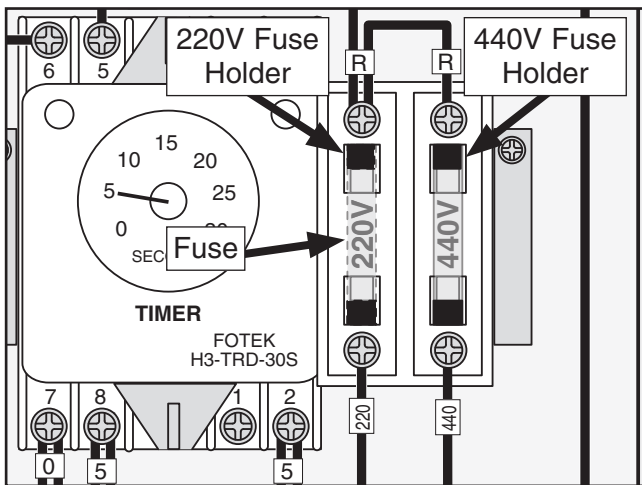

Figure 8. Moving fuse to “440V” fuse holder.
- Remove fuse from “220V” holder and insert it into “440V” holder (see illustration in **Figure 8**).